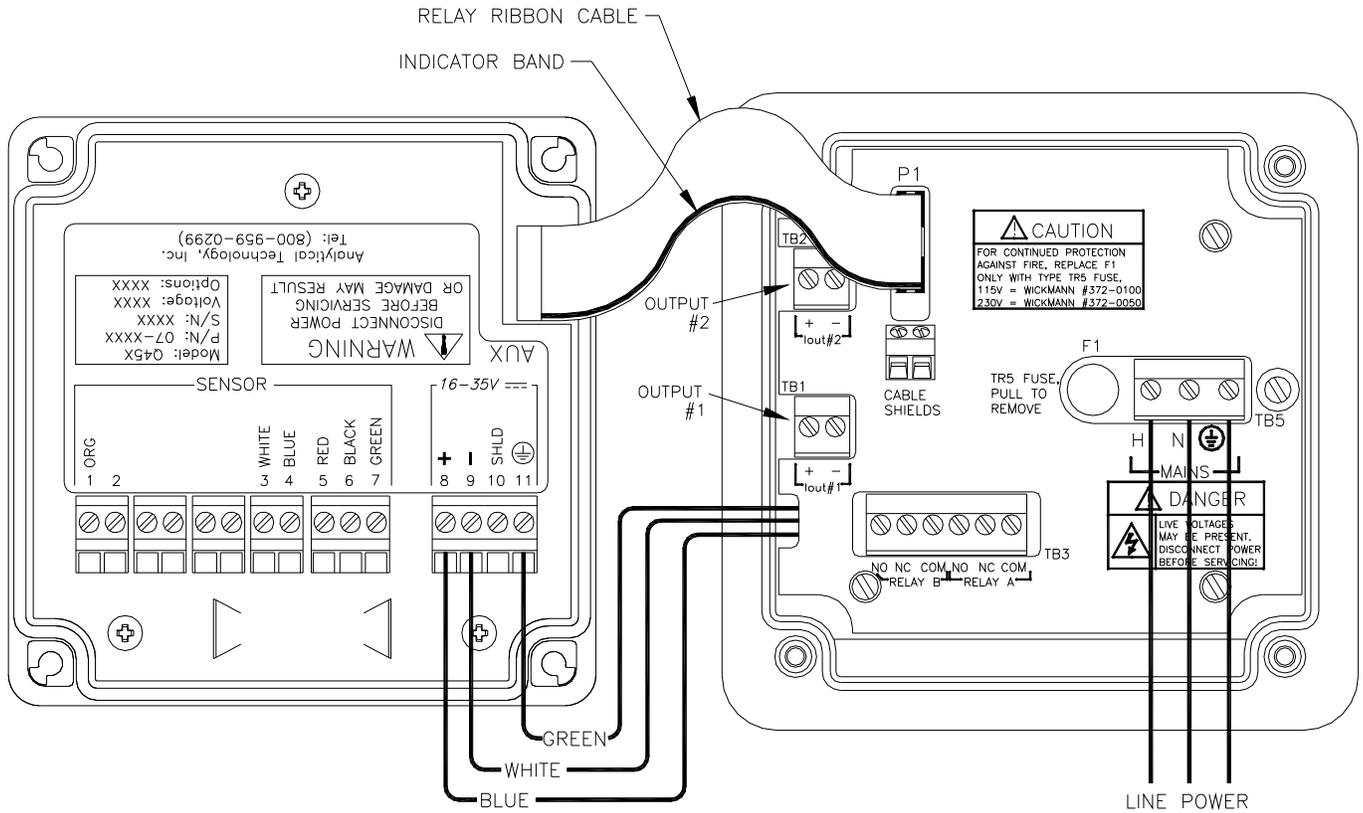

Figure 11 - Line Power Connection
1. Use wiring practices that conform to all national, state and local electrical codes. For proper safety as well as stable measuring performance, it is important that the earth ground connection be made to a solid ground point from terminal 12 (Figure 11). The AC power supply contains a single 100mA (115V) or 50mA (230V) slo-blo fuse. The fuse **F1** is located adjacent to **TB5** and is easily replaceable.
A ribbon cable connects the power supply assembly with the microprocessor assembly located in the front section of the enclosure. This cable can be removed during installation to facilitate wiring if desired. It is best to unplug only one end. The ribbon cable has a marking stripe on one edge that is used to indicate proper orientation. The indicator stripe should be on the bottom edge of the cable when installed as shown in Figure 11